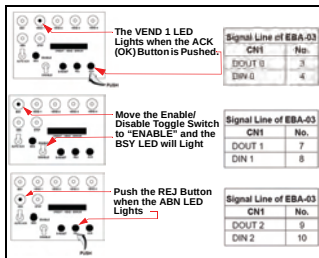

Figure A-11 EBA Test #4 Lit LED Indications
4. Turn power to the VM-450 ON, and change DS-1, Switch #1 to OFF to begin running the tests listed in the Figure A-11 procedure.